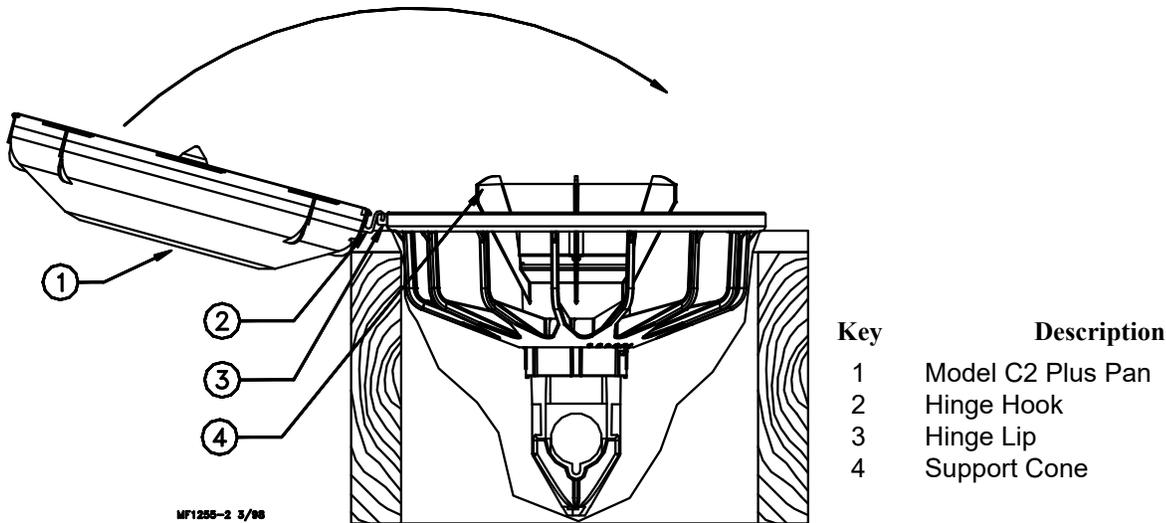

Figure 28. C2 Pan Assembly
- Interlock the hinge hook on the pan with the hinge lip on the grill. The pan should be face up, as shown in **Figure 28**.